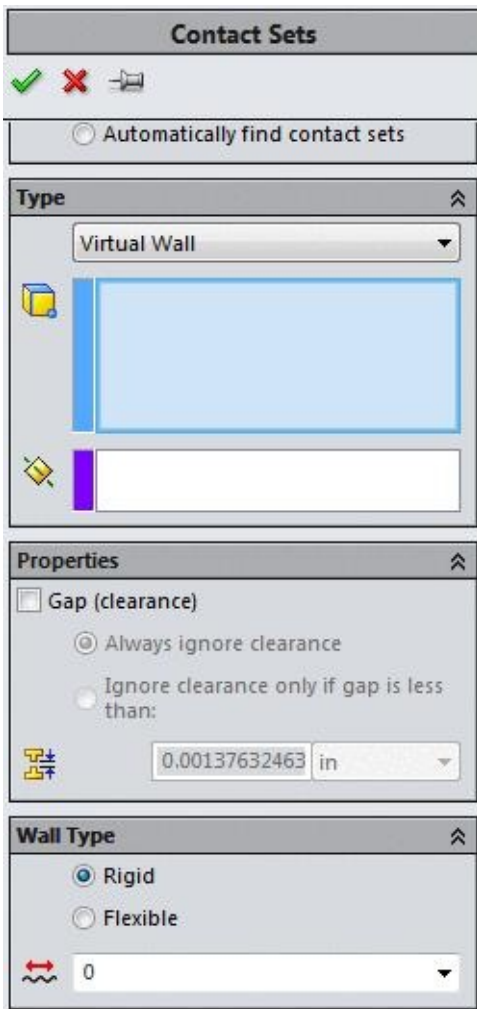

Figure-67. Options in Contact Sets PropertyManager on selecting Virtual Wall option
- Select the **Virtual Wall** option from the drop-down in the **Type** rollout. The options in the **PropertyManager** will display as shown in Figure-67.